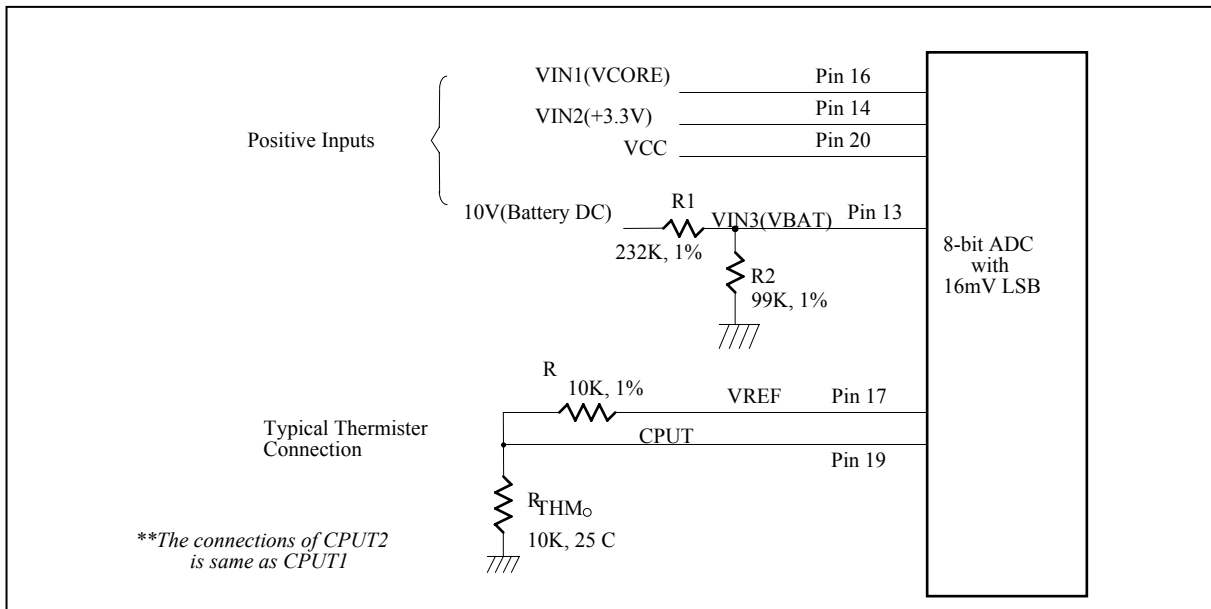

Figure. 10.
The maximum input voltage of the analog pin is 4.096V because the 8-bit ADC has a 16mV LSB. Really, the application of the PC monitoring would most often be connected to power suppliers. The CPU V-core voltage and +3.3V voltage can directly connected to these analog inputs. The 5VSB and battery inputs should be reduced a factor with external resistors so as to obtain the input range. As Figure 10 shows.
The W83L784R/G can connect three thermistors to measure three different environment temperature. The specification of thermistor should be considered to (1)  $\beta$  value is 3435K, (2) resistor value is 10K ohms at 25°C. In the Figure 10, the themistor is connected by a serial resistor with 10K Ohms, and then connect to VREF (pin 17).